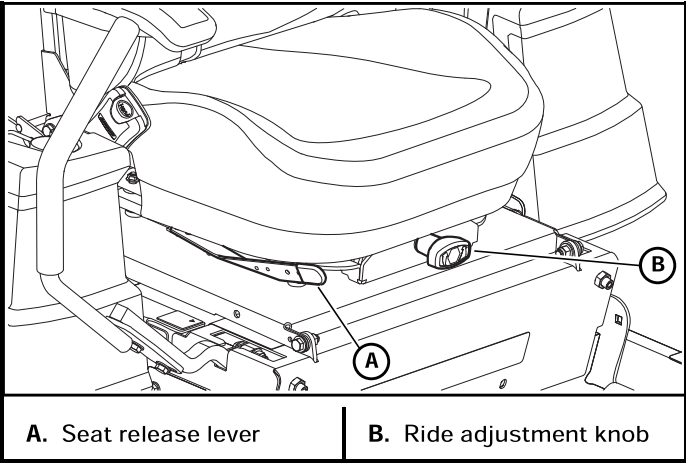

Figure 4-16
1. Use the seat release lever to slide the seat forward and rearward. Figure 4-16
2. Adjust the seat firmness by turning the ride adjustment knob. Figure 4-16